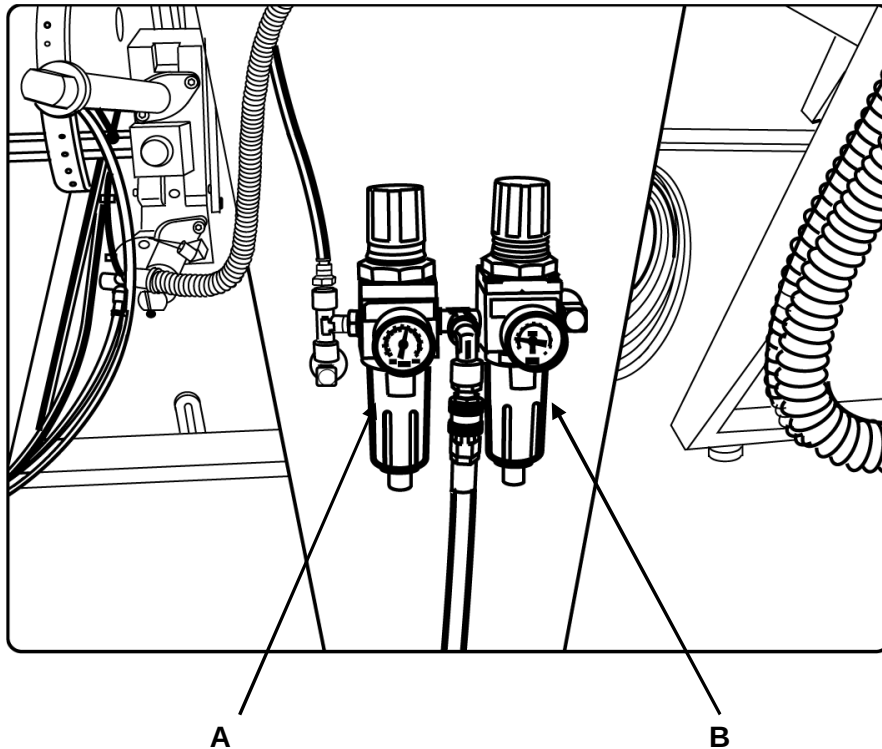

Fig. 07-02
7.2 ADJUSTING THE INCOMING AIR PRESSURE (Fig. 07-02)